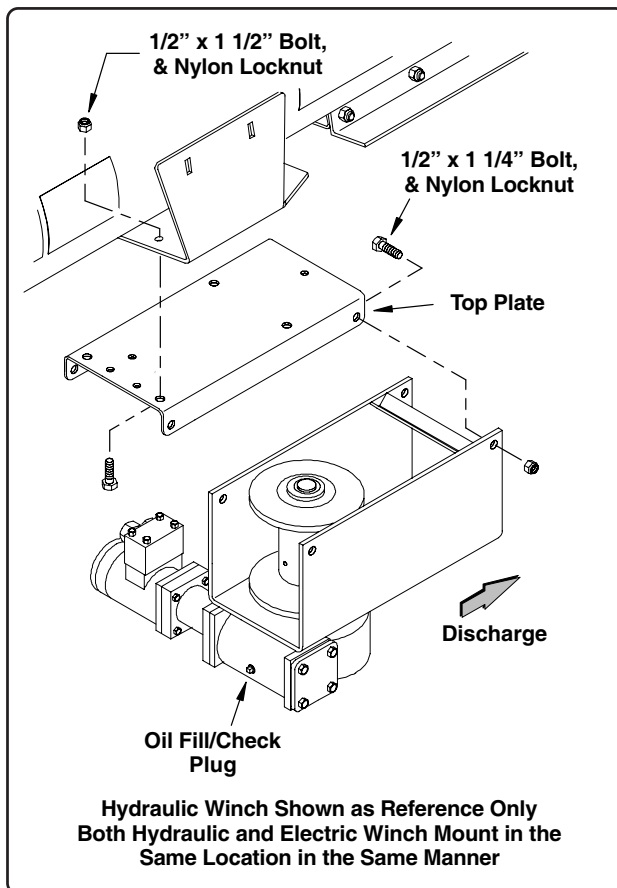

Fig. 39
The oil fill and check level plug is located on the gearbox for both the electric and hydraulic winch (See Fig. 39). Oil capacity is the same for both the hydraulic and electric winch.
2. Remove and retain the four (4) 1/2" x 1 1/4" bolts and nylon locknuts securing the top plate to the winch sides.
For 36' Models: Attach the top plate to the winch mount plate on the main auger housing using four (4) 1/2" x 1 1/2" bolts and nylon locknuts (install bolts from the bottom side of the plate, See Fig 39).